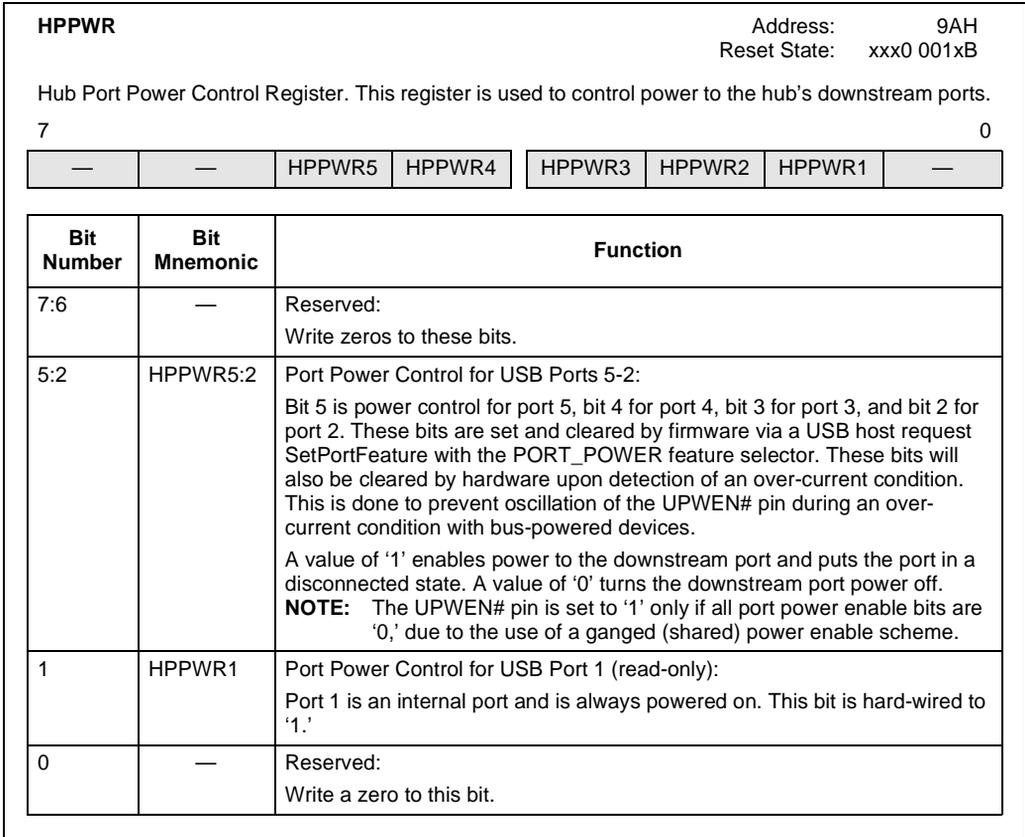

Figure 7-14. HPPWR: Hub Port Power Control
From a USB perspective, power can be enabled on a per-port basis, but the power enable is active if any of the ports are powered-on by the host. The host PC can selectively switch power on or off for a given port using a Set_Feature request with a Port_Power feature selector. The 8x931 firmware must respond to this port power request by setting or clearing the appropriate bit in the HPPWR SFR (Figure 7-14). An exception to this is the internal downstream port, port 1, which is statically powered-on. The host PC may inquire about a port's power status using Get_Feature (Port_Power). Firmware must respond to this inquiry by checking and reporting on the PPSTAT bit (bit 4) of HPSTAT (see Section 7.5.2, Examining a Port's Status Using HPSTAT).
- by the collective ORed value of bits 5:2 of the HPPWR SFR (Figure 7-14) under control of firmware, and
Table 7-7 describes the state of the UPWEN# signal for all conditions of the HPPWR5:2 signals and the OVRI# pin. Port power enable bits in the HPPWR SFR (Figure 7-14 on page 7-28) are set via the SetPortFeature PORT_POWER request from the USB host. They are cleared via the ClearPortFeature PORT_POWER request, or by hardware upon detection of an overcurrent condition.